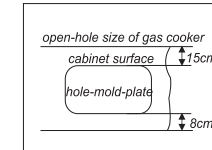

Fig.6
- Place the hole-mold-plate in the installation position and open the hole according to the hole-mold-plate, and then place gas cooker onto the hole. (Fig.6)